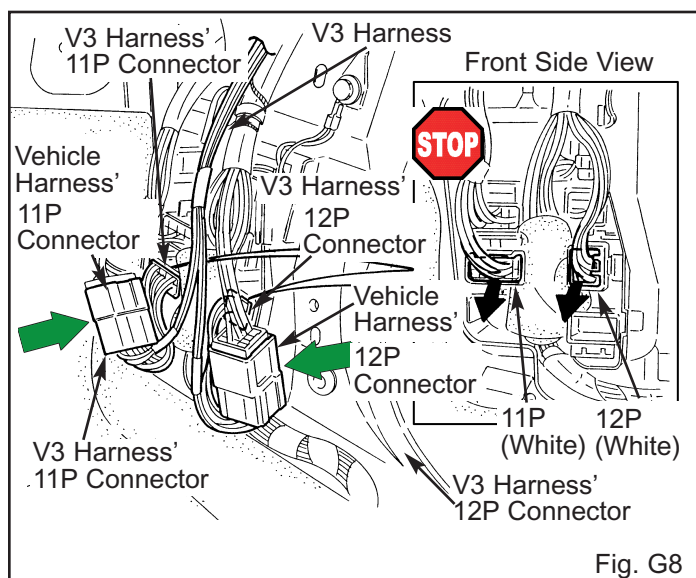

Fig. G8
13. Locate and disconnect the white 11P connector and the white 12P connector from the passenger's cowl area. (Fig. G8)
14. Plug in the V3 harness' white 11P connector between the vehicle harness' white 11P connector and the passenger's cowl area. (Fig. G8)
15. Plug in the V3 harness' white 12P connector between the vehicle harness' white 12P connector and the passenger's cowl area. (Fig. G8)